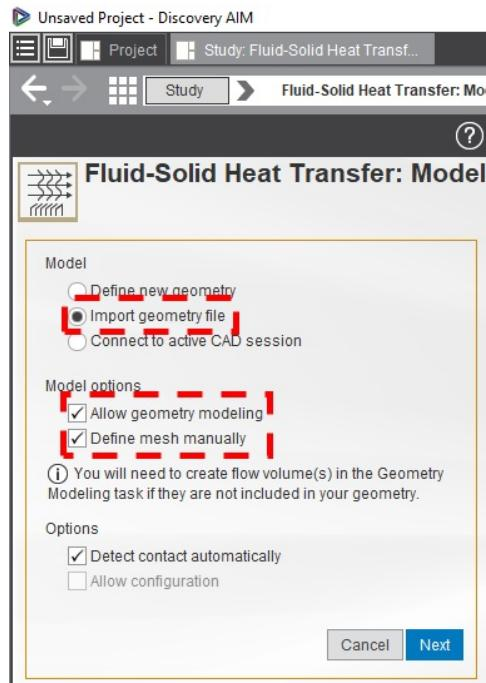

Figure 2.2:
2. Import your geometry file by clicking next and selecting the desired SpaceClaim File, as shown in Fig. 2.2, (Check the “**Define mesh manually**” and leave default boxes checked)